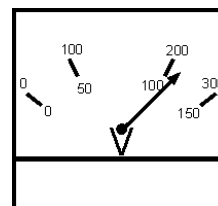
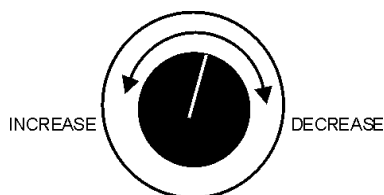

Figure 44. Voltage Meter (Volts)
Figure 45. Voltage Adjust Control Knob
11. The generator's voltage meter (Figure 44) displays the 120 VAC in VOLTS. If the voltage is not within the specified frequency tolerance, use the voltage adjustment control knob (Figure 45) to increase or decrease the desired voltage.